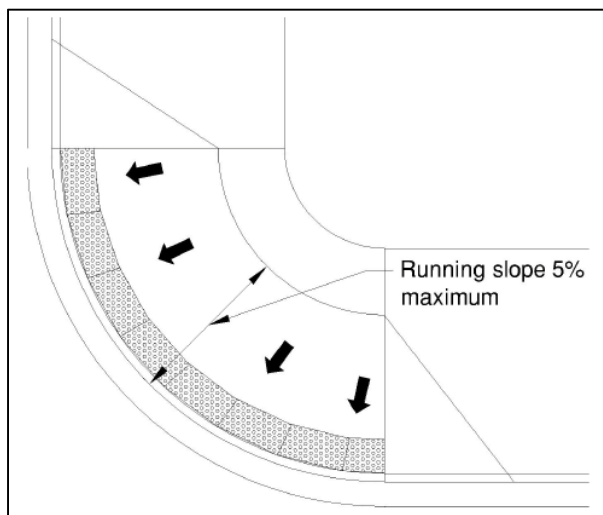

Figure 3 - Blended Transition Running Slope
- Blended transition running slopes do not exceed 5% (see **Figure 3**). *PROWAG R304.4.1*